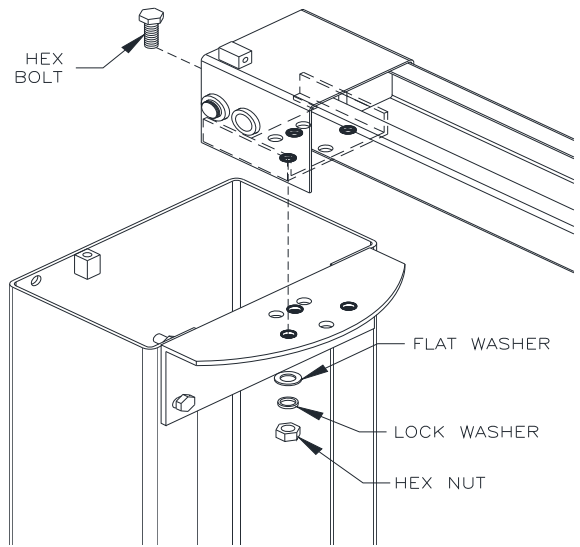

Fig 9 – Symmetric Overhead Mounting
- 19) Place the Overhead on top of the mounting brackets on Column Extensions and bolt together using (3 sets) M12 x 25 Hex bolt, nut, flat washer, and lock washer. Hand-tighten bolts to allow for column adjustment if needed. Use the holes highlighted below in **Fig 9** below.